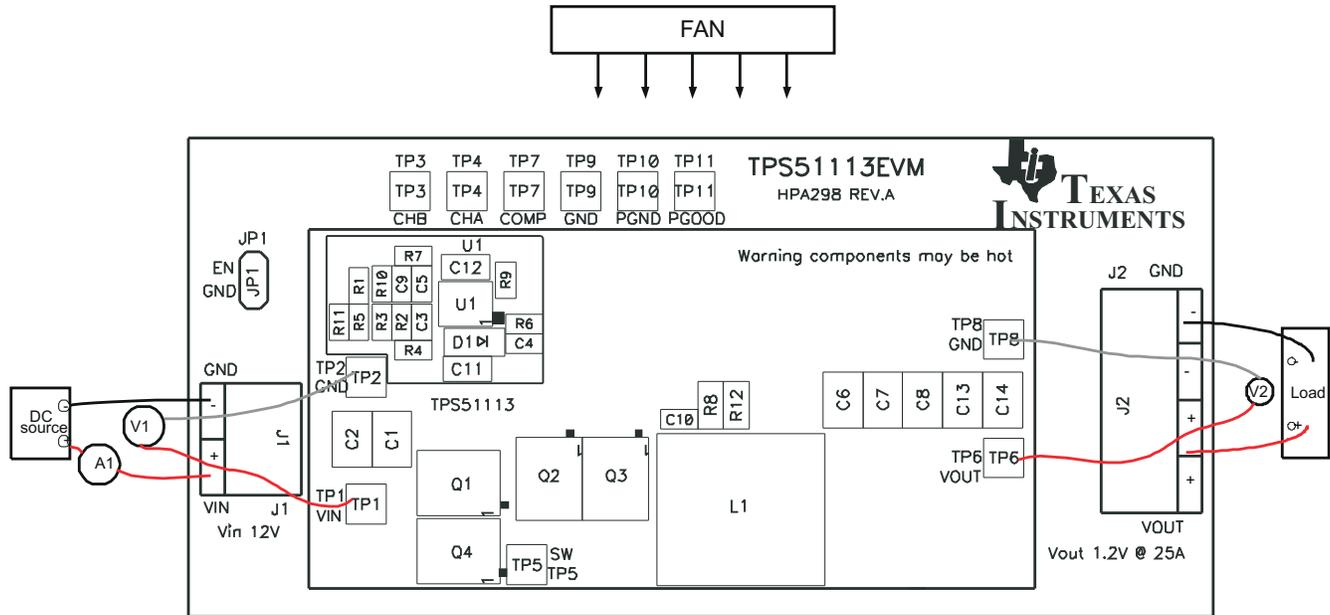

Figure 7-2. TPS51113-EVM Recommended Test Setup
The input voltage source V_{IN} should be a variable DC source between 0 V and 14 V, capable of supplying 10 A_{DC} . Connect V_{IN} to J1 as shown in Figure 7-2.
A voltmeter between 0 V and 15 V should be used to measure V_{IN} at TP1 (V_{IN}) and TP2 (GND). A voltmeter between 0 V and 5 V for output voltage measurement at TP6 (V_{OUT}) and TP8 (GND). A current meter between 0 A and 10 A (A1) as shown in Figure 7-2 is used for input current measurements.
Figure 7-2 is the recommended test set up to evaluate the TPS51113-EVM. Working at an ESD workstation, make sure that any wrist straps, bootstraps, or mats are connected referencing the user to earth ground before power is applied to the EVM.
1. Prior to connecting the DC input source V_{IN} , it is advisable to limit the source current from V_{IN} to 10 A maximum. Make sure V_{IN} is initially set to 0 V and connected as shown in Figure 7-2.
Place a fan as shown in Figure 7-2 and turn it on, making sure air is flowing across the EVM.
1. Set up the EVM as described in Section 8.1 and Figure 7-2.